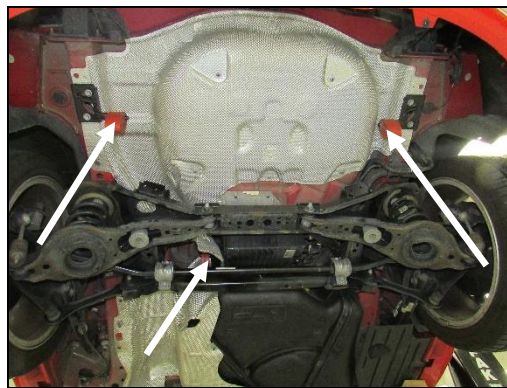

Figure 5
7. Go to the muffler, remove the (x3) hangers out of the rubber isolators, and remove the muffler from under the car (**Figure 5**).